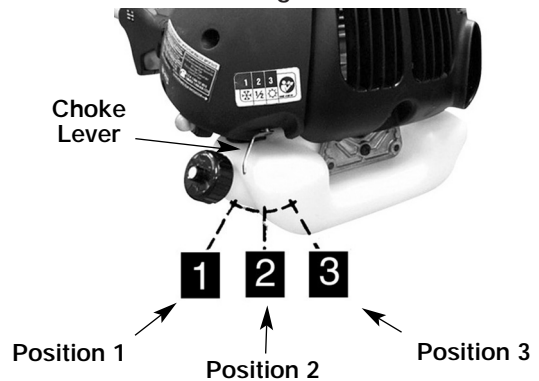

Fig. 6
3. Move choke lever to Position 1 (Fig. 6).
2. Move choke lever to Position 1 (Fig. 6).